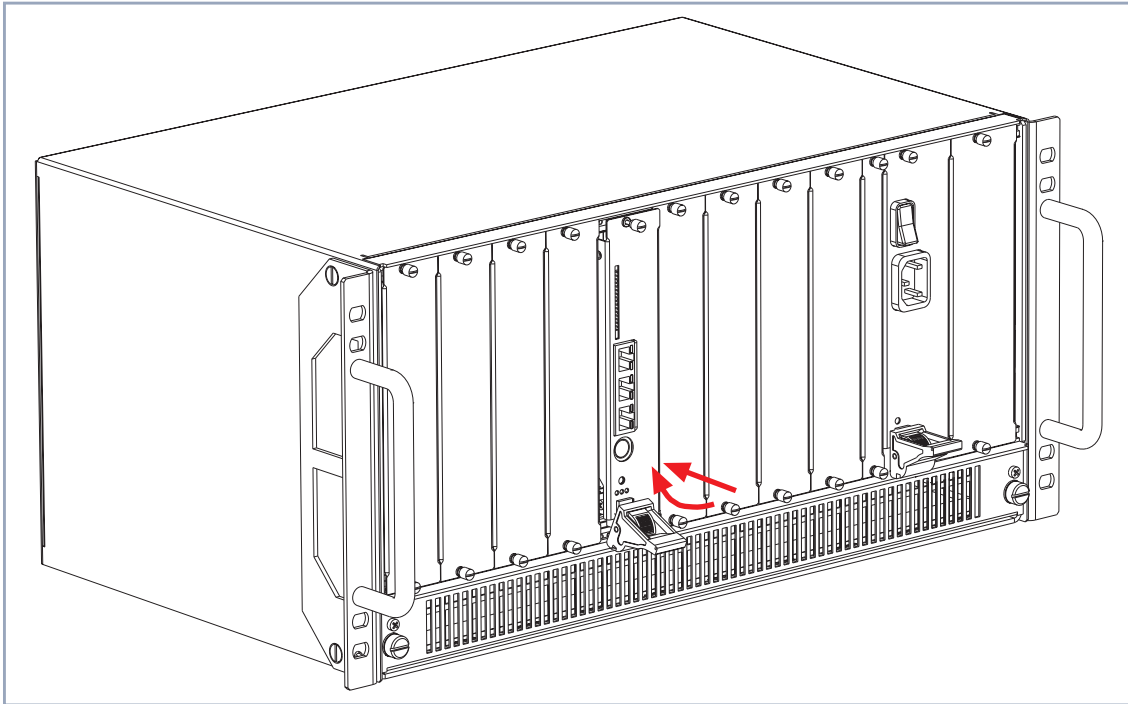

Figure 4-5: Installing the expansion card
- Once the expansion card reaches the connector, lift the injector/ejector handle until it is fixed to the cross section of the case front (see figure 4-5, page 40).